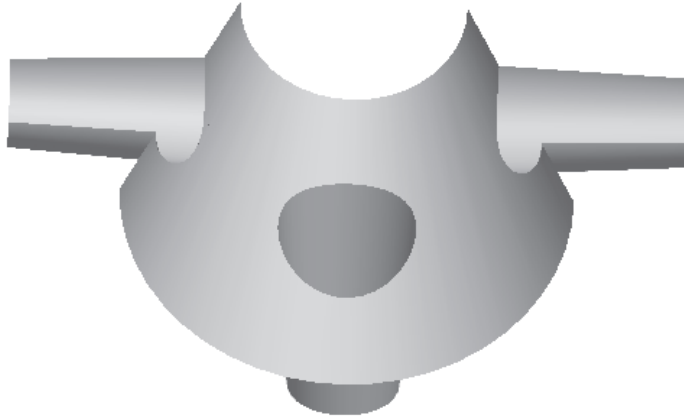

Figure 14-80 Surface model after merging the two surfaces
5. Using the same procedure, merge the blend surface on the right with the blend surface at the middle. After that, merge the top blend surface with the middle blend surface. Figure 14-80 shows the surface model after merging all the surfaces and forming a quilt.